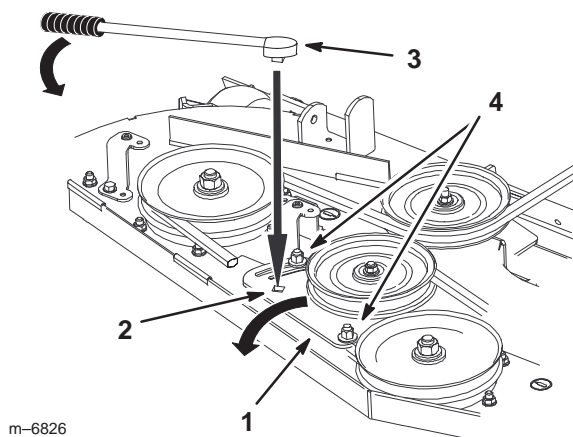

Figure 76
- Loosen the nut securing the idler plate and move the idler plate to relieve the belt tension on the idler pulley, then remove the worn mower belt (Fig. 76).
- If adjustment is required, loosen the mower idler plate and adjust it (Fig. 76).
- Insert a ratchet or breaker bar into the square hole in the mower idler plate to adjust the tension (Fig. 76).
- To increase belt tension, rotate the mower idler plate until resistance is felt and rotation stops. Do not go past when it stops (Fig. 76).
- Tighten the idler plate bolts (Fig. 76).
10. Adjust the belt tension and the idler plate, if necessary, and tighten all hardware securely (Fig. 76).